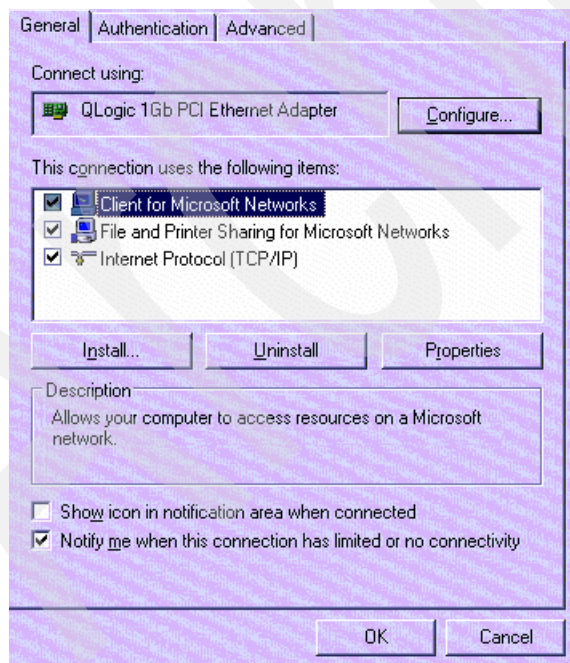

Figure 4-61 Identifying LAN connections
- ii. Right-click each of the connections and click **properties** to identify the connection. In Figure 4-61, we show the QLogic adapter.